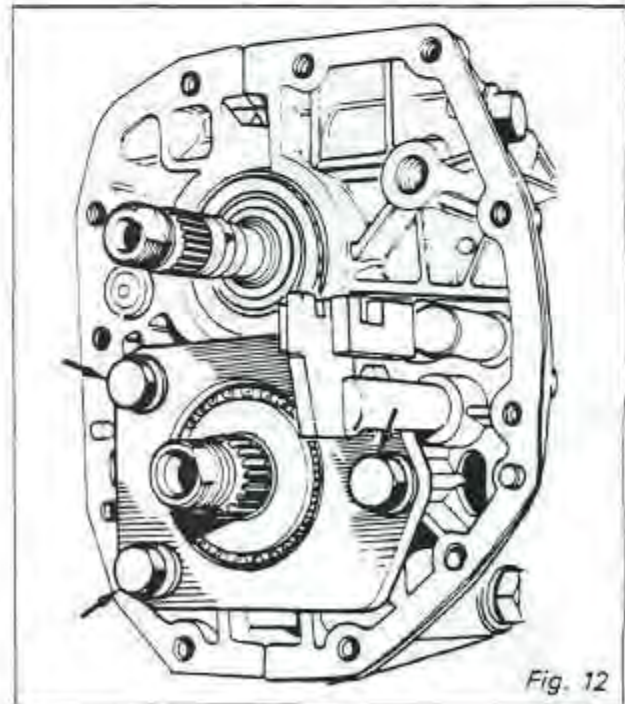

Fig. 12
6. Remove the 5th speed sliding gear, shaft and fork as an assembly from the primary shaft. (Fig. 12)
11. Remove three (3) bolts securing the roller bearing retaining plate and remove plate. (Fig. 12)